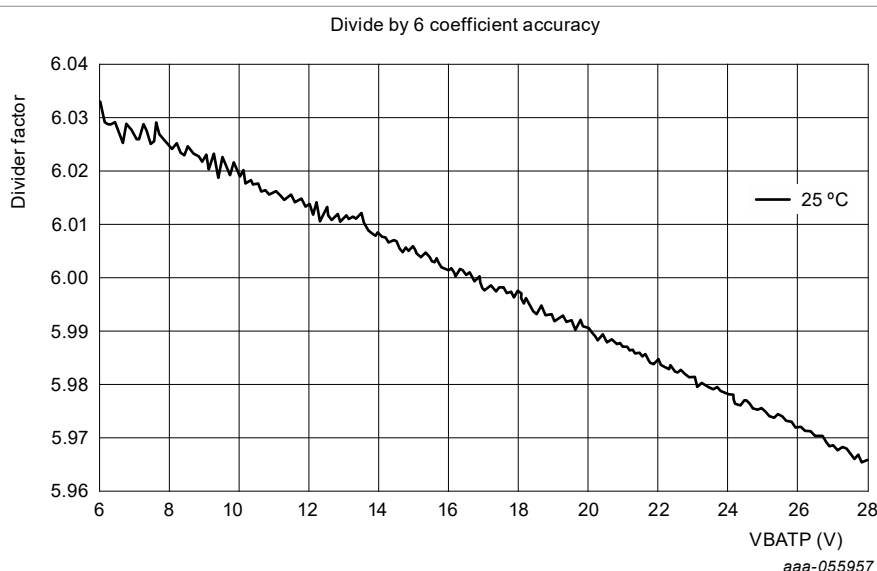

Figure 6. Divide by 6 coefficient accuracy
- Calibration of divider ratio can be done at $V_{BAT} = 12\text{ V}$, $25\text{ }^\circ\text{C}$ to achieve a higher accuracy. See Figure 6 for AMUX offset linearity waveform through the operating voltage range.